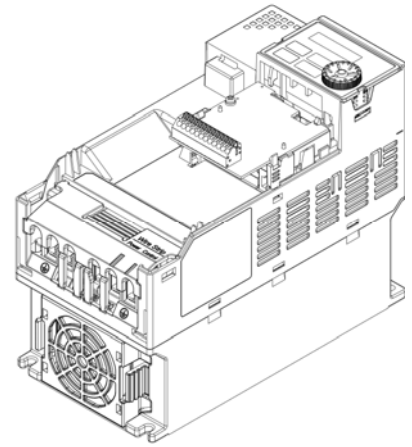

Figure 8-6
6. As shown in the Figure 8-6, assembly is completed.